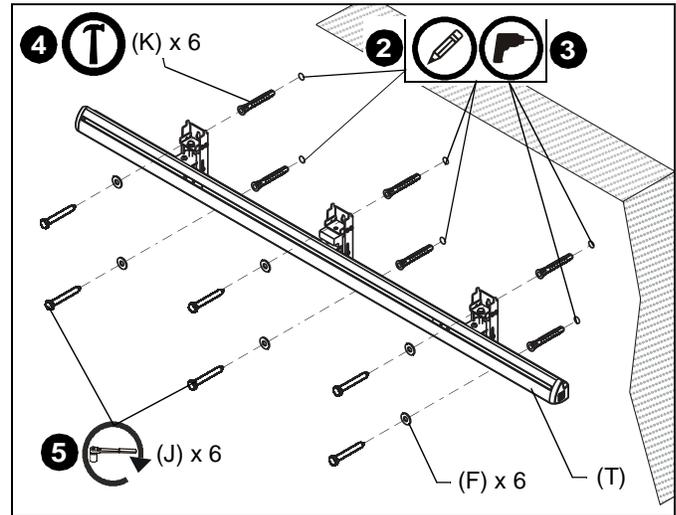

Figure 5
**NOTE:** The mounting holes for the two outside OB1U wall brackets on the wall assembly (T) must be located a **minimum** of 32" apart.
**NOTE:** The center wall bracket must remain in the center of the wall assembly (T) **AND** a **minimum** of 16" from both outside wall brackets.
**NOTE:** Leave a **minimum** of 1" between the bottom of the wall assembly brackets and the top of the existing chalkboard/whiteboard. This will allow enough space to install the wall bracket covers (Q) at a later time.
2. Using the wall assembly (T), mark the wall above existing chalkboard/whiteboard through mounting holes in each bracket. (See Figure 5)
3. Drill one 5/16" x 2-3/4" pilot hole at each marking. (See Figure 5)
4. Install an anchor (K) into each pilot hole using a hammer. (See Figure 5)
5. Use six 1/4" x 2-1/2" lag bolts (J) and six 1/4" flat washers (G) to attach wall assembly (T) to anchors in wall. (See Figure 5)